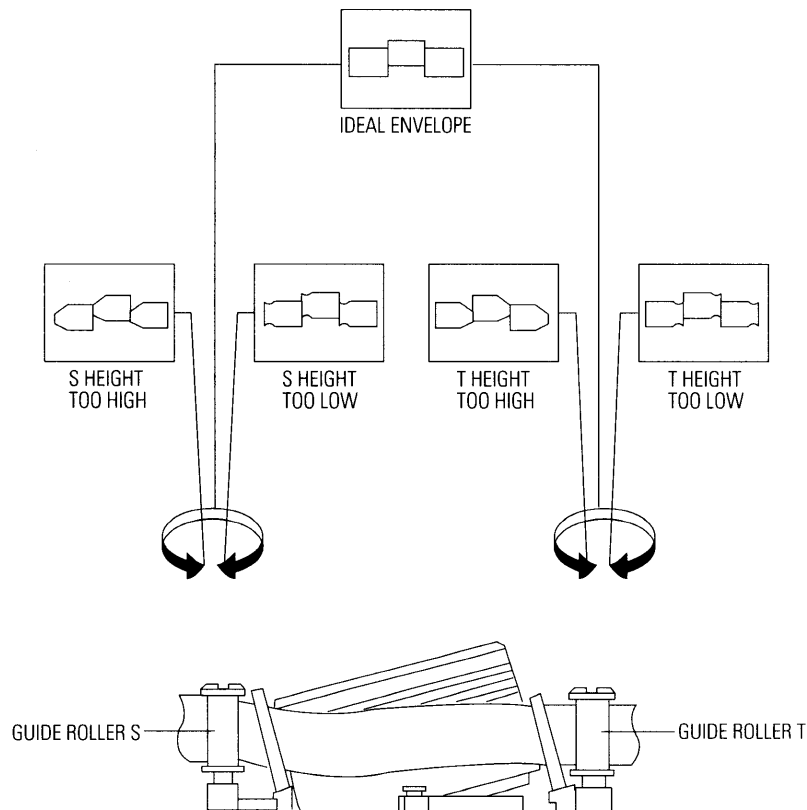

Fig. 5-11 Guide Roller S, T Height Adjustment
- 8) Turn the guide roller heads with a flat head () driver to obtain a flat video RF envelope as shown in Fig. 5-11.